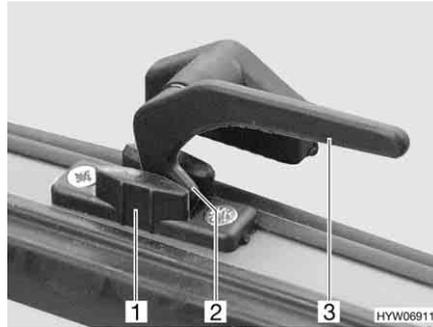

Fig. 51 Catch lever in the "continuous ventilation" position
- "Continuous ventilation" (Fig. 51)
- Turn the catch lever (Fig. 51,3) a quarter turn towards the centre of the window.
- Return the catch lever to its initial position. The locking catch (Fig. 51,2) has to be moved into the recess of window catch (Fig. 51,1).